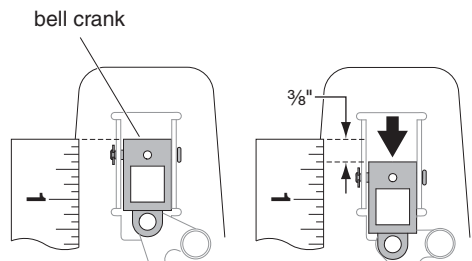

Figure 2
2. Using a ruler, locate the extended position of the bell crank (see Figure 2).
4. Check bell crank travel. Bell crank must be a minimum of  $\frac{3}{8}$ " from extended position and must not run out of travel (see Figure 2).